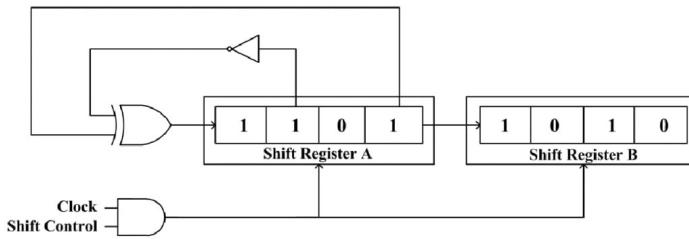

Fig. 5.10
10. In the circuit shifter in Fig. 5.10, the initial binary content of the shift register  $A$  is 1101 and that of shift register  $B$  is 1010. The shift registers are positive edge triggered, and the gates have no delay. When the shift control is high, which of the following are legitimate combinations of binary content of the shift registers  $A$  and  $B$  in any clock pulse?